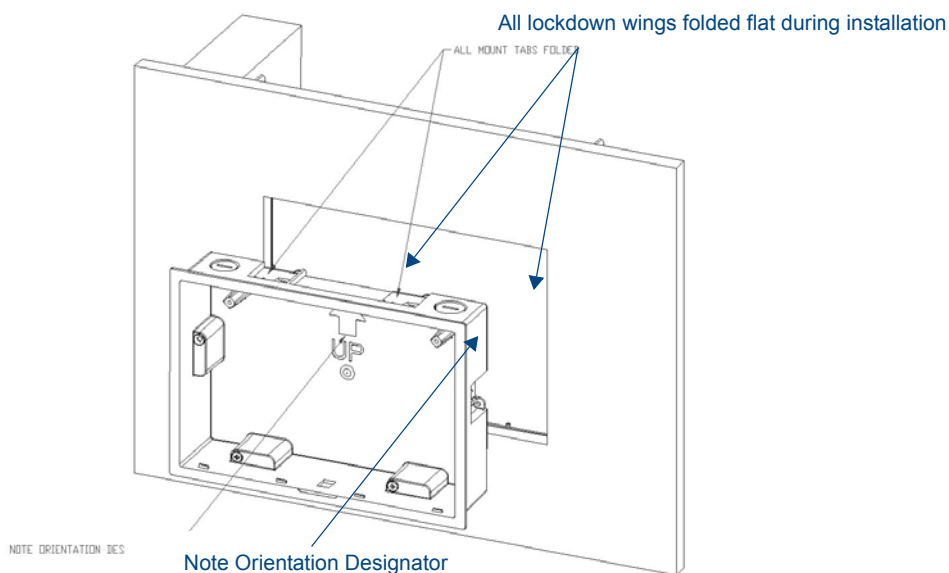

FIG. 11 Installation of plastic back box
4. Slide the plastic back box into the hole, being careful not to twist or pinch the cable, and set it flush with the wall (FIG. 11). Make sure that all of the lockdown wings are folded into their slots before attempting to insert the box. For ease of installation, the inside of the box has the direction "UP" labeled for reference.